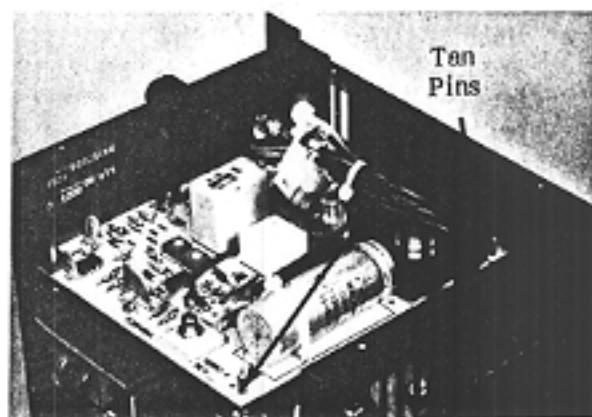

FIGURE 15
02.24 Align the two tan-colored PBBU pins with the two holes in the mounting bracket (Figure 15). Press the pins into the holes until they catch.